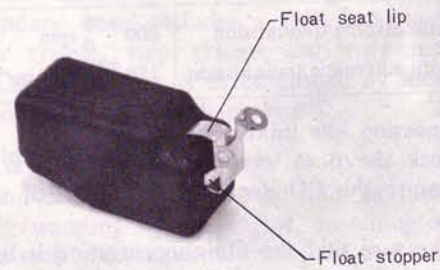

Fig. 4-8 Float
If the distance (L) is not within specifications, adjust it by bending the float stopper shown in Fig. 4-8.